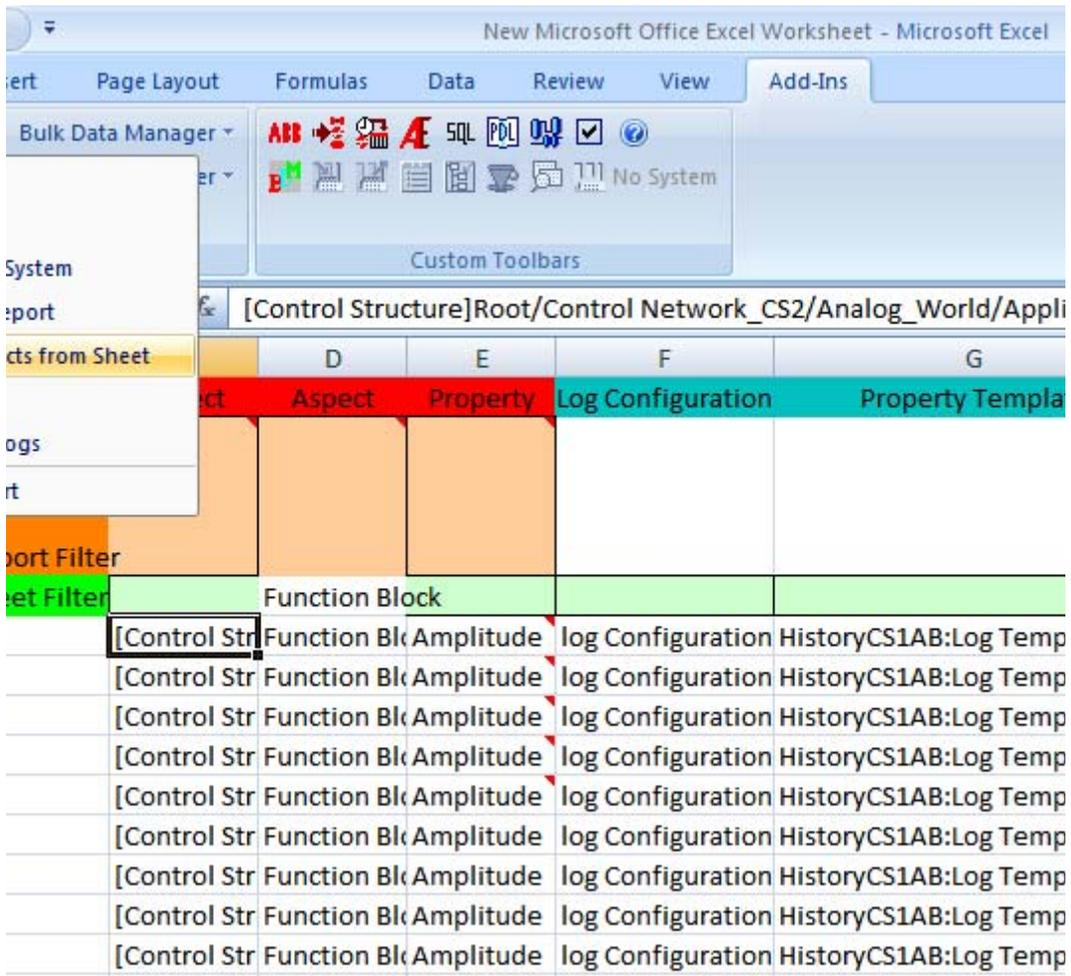

Figure 216. Updating Log Aspects from the Sheet
9. Once the log template and log configuration aspect definitions have been filled in, run the Bulk Configuration utility to update the log aspects from the spreadsheet. To do this, choose **Bulk Import > Update Log Aspects from Sheet**, Figure 216.